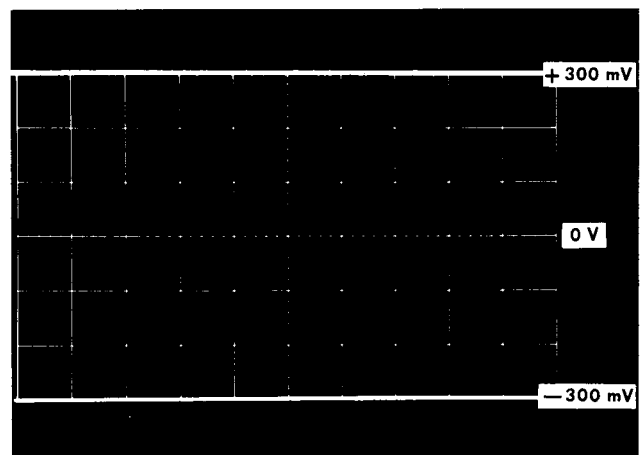

Fig. 5-2. Positioning range of OUTPUT DC LEVEL with test oscilloscope set to 0.1 V/cm.
- Rotate the OUTPUT DC LEVEL control throughout its range and check for a positioning range of at least + and —3 centimeters ( $\geq +$  and —300 mV at the probe amplifier output). See Fig. 5-2.